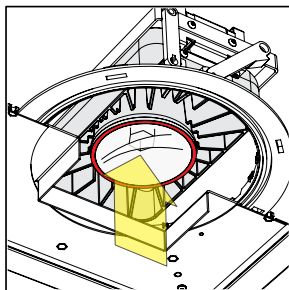

fig. 16
- b. To set optic at the deep regress position push optic directly up. Light engine will magnetically lock into place (see fig. 16)